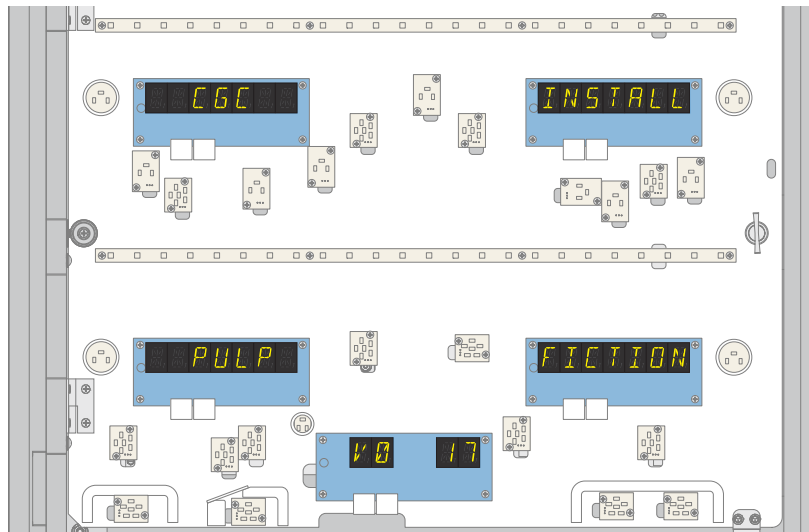

Figure 4-11. Displays - Initial software update notification.
11) Turn the game on. After system power up, you will see that the new version is preparing to install - with a countdown timer in the Ball in Play (figures 4-11 & 4-12) display. If you wish to abort the update (before the timer reads 00), press the green (**ESC**) button, inside the coin door.